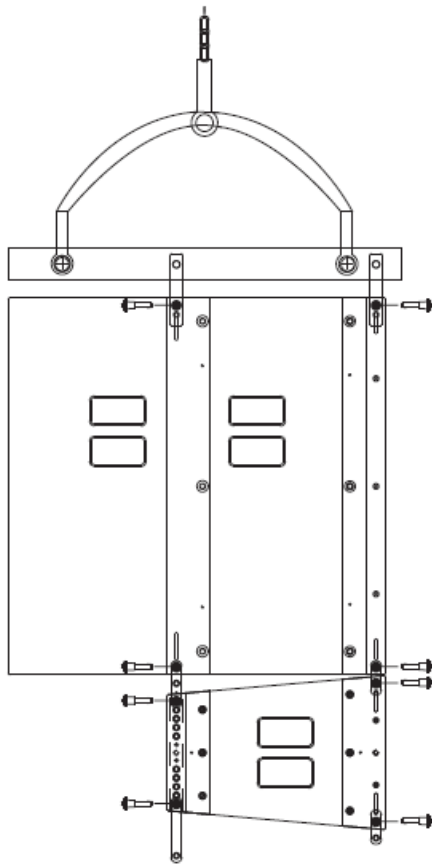
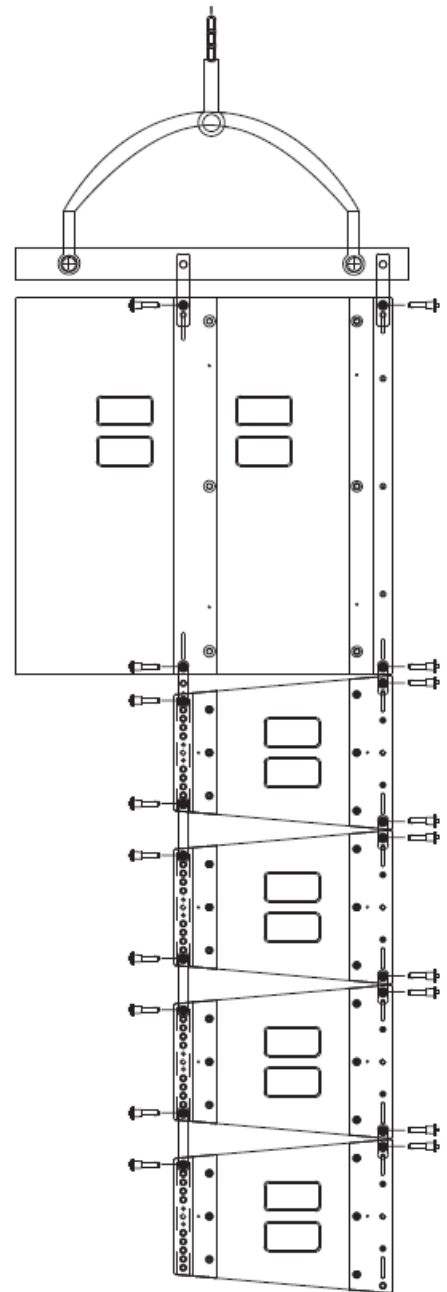

Figure 7
Figure 8
- **Step 7:** After matching the lifting hole of the front end with OK, insert the front-end bolt horizontally into the lifting hole, and then insert the bolt after matching the lifting hole of the back end with OK (as shown in Figure 7). Step 8: Repeat the above steps to complete the lifting of the whole set of speakers (Figure 8).